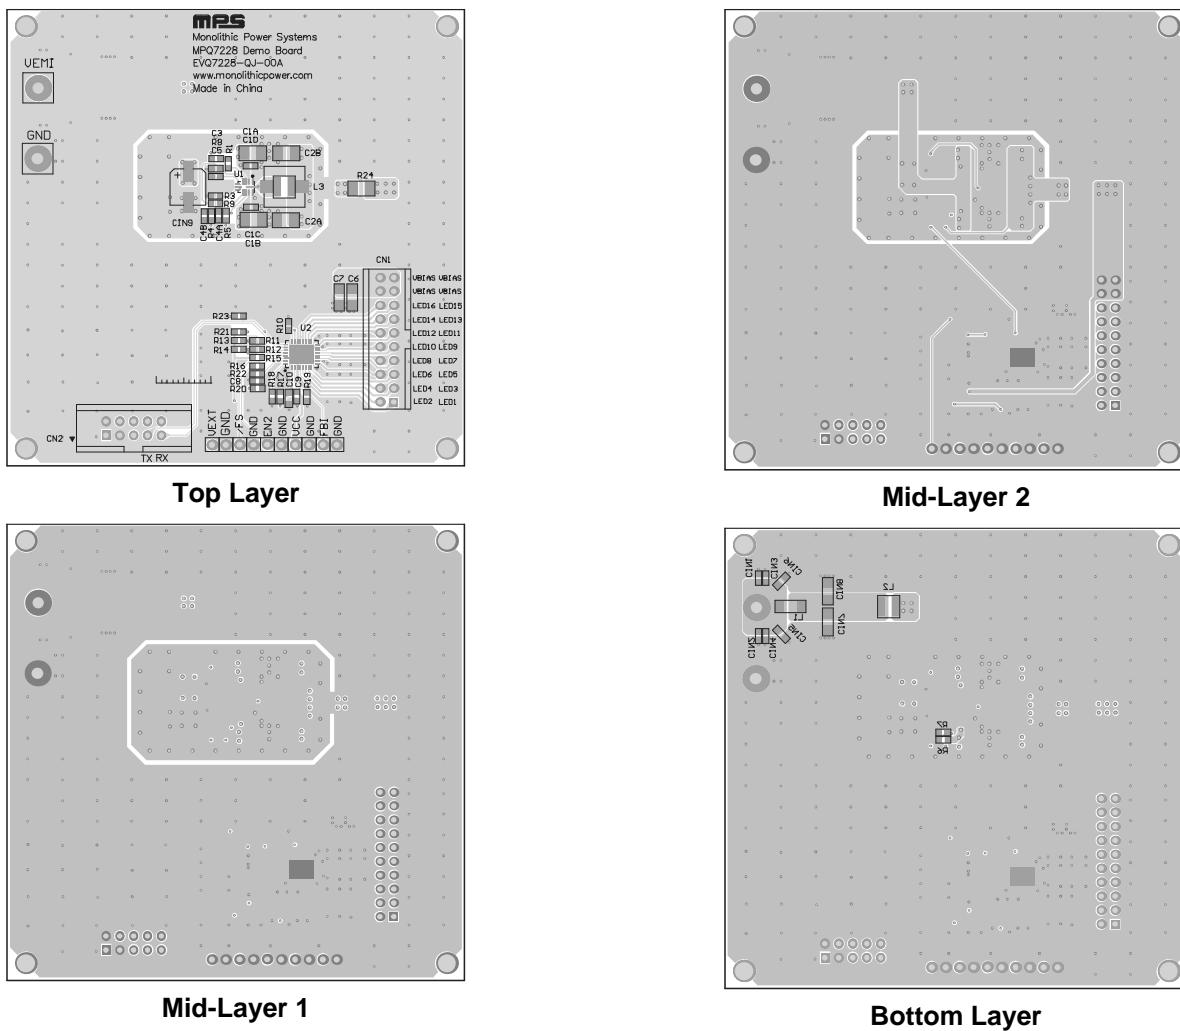

Figure 18: Recommended PCB Layout ⁽¹²⁾
If the MPQ7228 and DC/DC converter are on the same board, or if there is a connected FBO wire condition, the resistor network can be connected according to Figure 18 on page 43. Then the feedback resistors (R1 and R2) can be estimated with Equation (4):
Efficient PCB layout is critical for stable operation. Consider the bulk current injection (BCI), as FBO has a maximum current capability of 5mA for anti-interference. To improve BCI and EMC results, and for the best results, refer to Figure 18 on page 43 and follow the guidelines below: